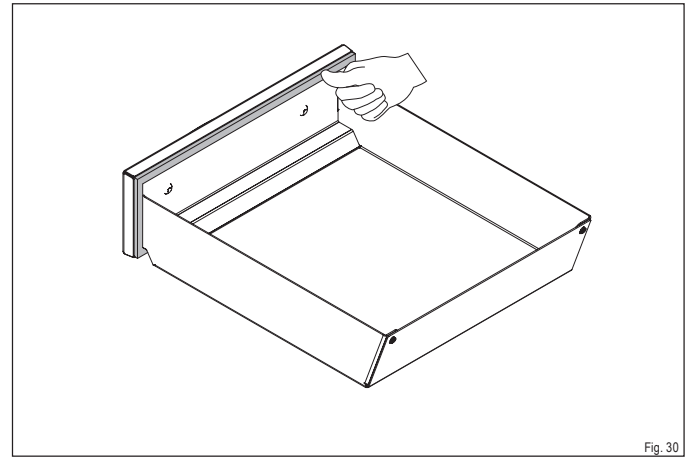

Fig. 30
- ▶ Push the new seal evenly into the rail of the ash drawer (Fig. 30).